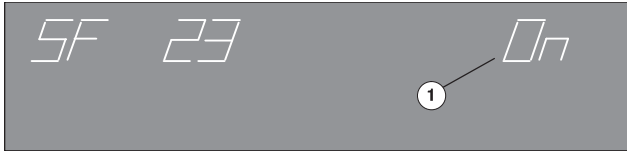

Fig. 6 SF 23: *Numbering without printing*
3. Change from OFF to ON with the + button (Fig. 6/1).